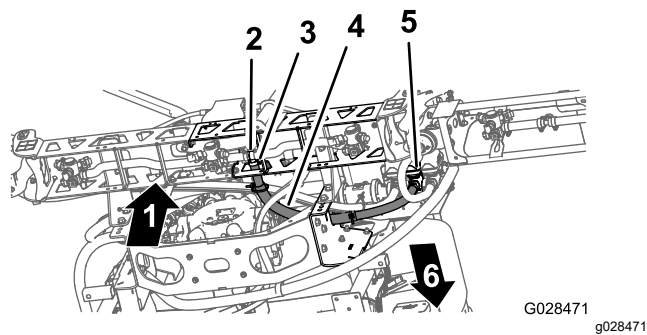

Figure 42
- 1. Route the center boom-section hose as shown in Figure 42.
- 2. Install the boom section hose over the barbed T-fitting at the center boom section and secure the hose with a hose clamp (Figure 42).